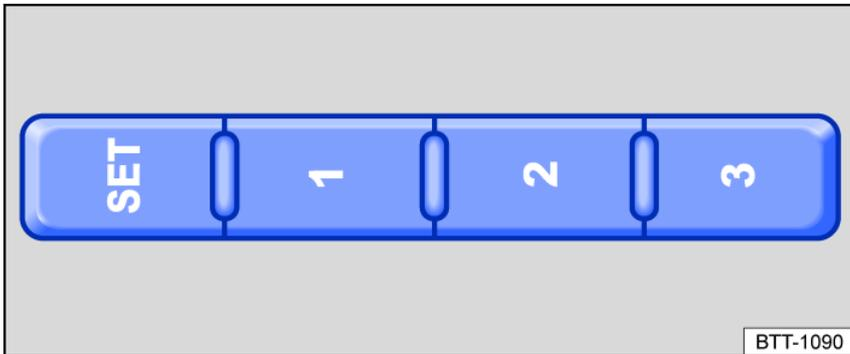

Fig. 90 On the outer side of the driver's seat: memory buttons.
- Press and hold the **SET** button for several seconds *fig. 90*.